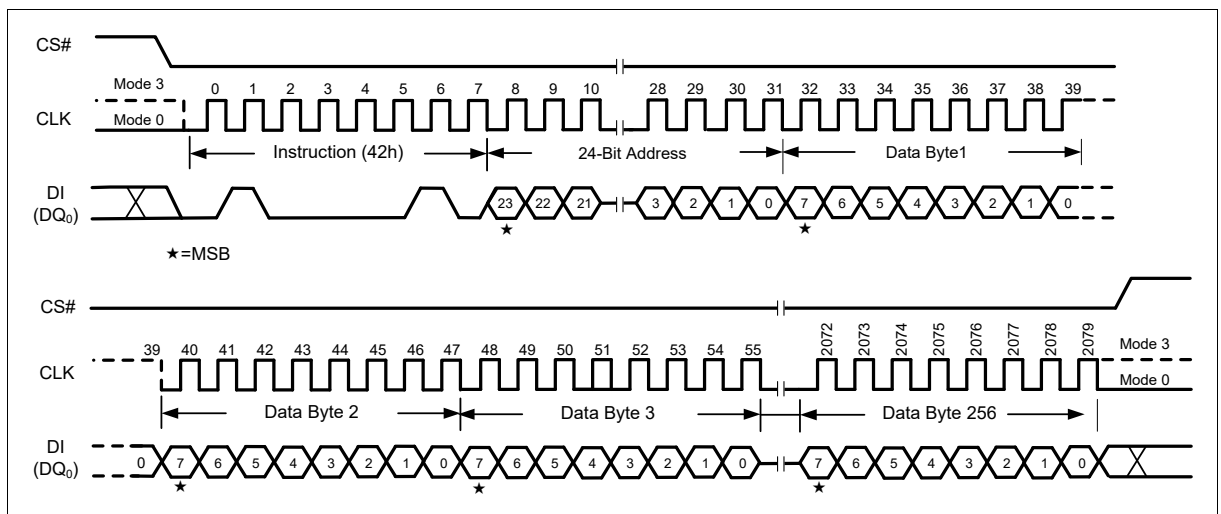

Figure 53 Program Security Sectors Instruction (SPI Mode only)
The Program Security Sector instruction sequence is shown in Figure 53. The Security Sector Lock Bit (LB) in the Status Register-2 can be used to OTP protect the Security Sectors. Once a lock bit is set to 1, the Security Sector will be permanently locked and Program Security Sector instruction will be ignored.